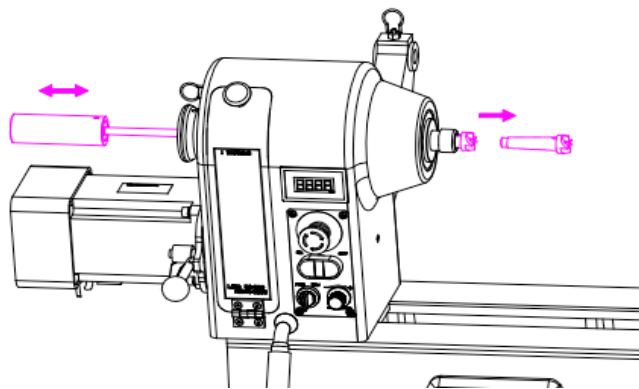

Fig. 15
- 3, To remove the center, insert the knockout rod from back hole in end of spindle and tap the center end (Fig. 15) out.